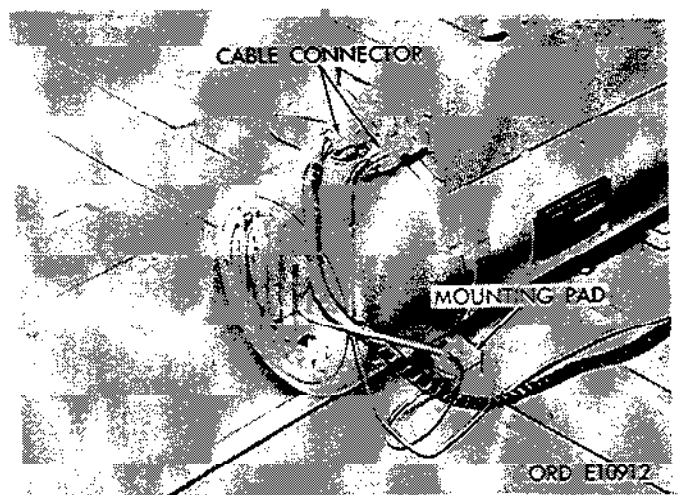
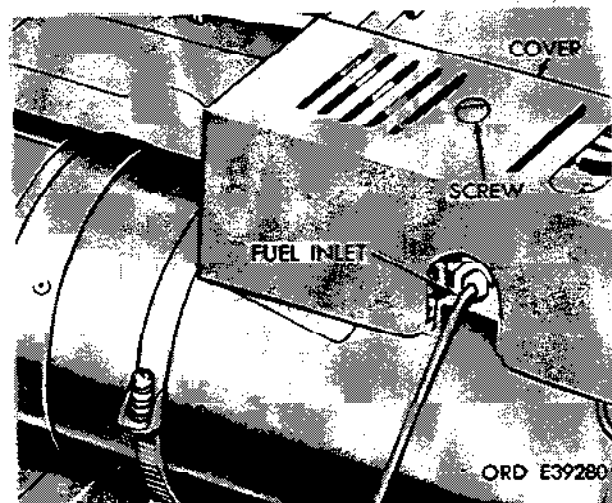

Figure 3-7. Heater wiring connections and mountings.
Figure 3-8. Fuel lines and mounting straps.
(4) Disconnect both cable connectors at panel near rear of heater (fig. 3-7).
(5) Disconnect fuel line.
(6) Disengage both heater mounting straps at screw-type clamps. Remove cover screw and lift off heater cover to allow rear strap to be removed. Install cover (fig. 3-8).